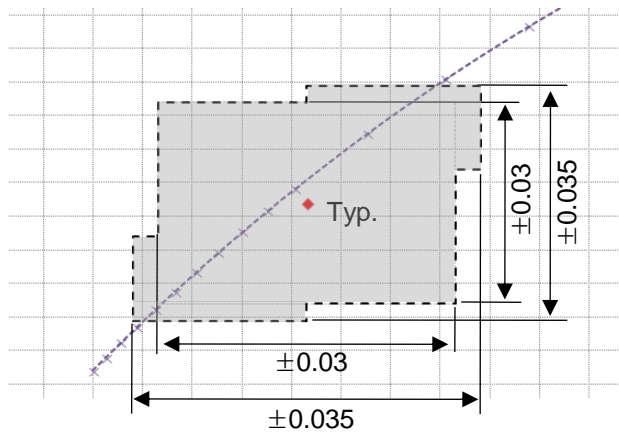

FIG. 2 Tolerance of White color coordinates
- White color coordinates tolerance is 0.035, In the case of more than W_x typical target and W_y typical target + 0.01, in the case of less than W_x typical target and W_y typical target - 0.01, in the remaining area is 0.03, see the FIG. 2.